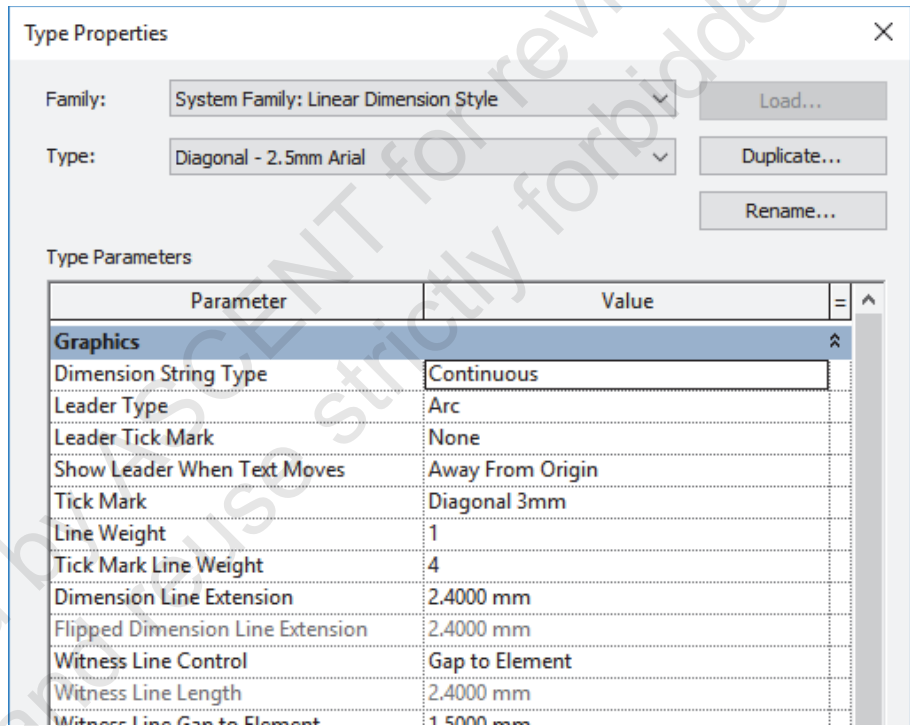

Figure 1–56
- Specify a prefix or suffix for *Primary Units*, as shown in Figure 1–56.